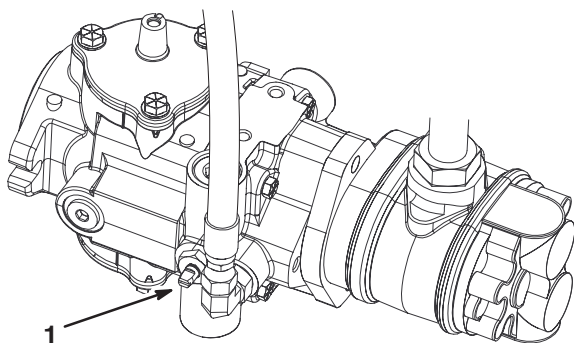

Figure 41
1. Locate the bypass valve on the pump and rotate it so that the slot is vertical (Fig. 41).
2. Before starting the engine, close the bypass valve by rotating it so that the slot is horizontal (Fig. 41). Do not start the engine when the valve is open.